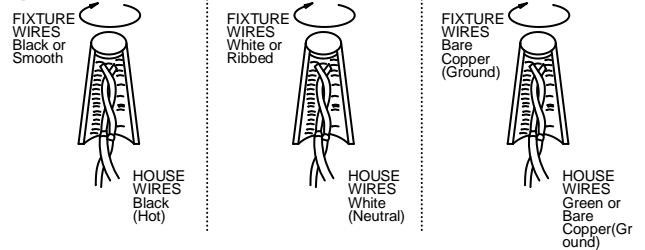

Fig. 3
6. Align the fixture back plate to mounting plate (C) and secure with cap nuts (F).
7. To prevent moisture from entering the outlet box and causing a short, use clear caulking (i.e. Indoor/Outdoor Silicone Sealant) to outline the outside of fixture back plate where it meets the wall leaving a space at bottom to allow moisture a means to escape. (Fig. 3)
8. Carefully remove screws (D) and separate fixture body (H) from top cover (G). Install the bulb (A-19 medium base, not supplied) in accordance with the fixture's specification. Attach the fixture body (H) back to the top cover (G) with screws (D).